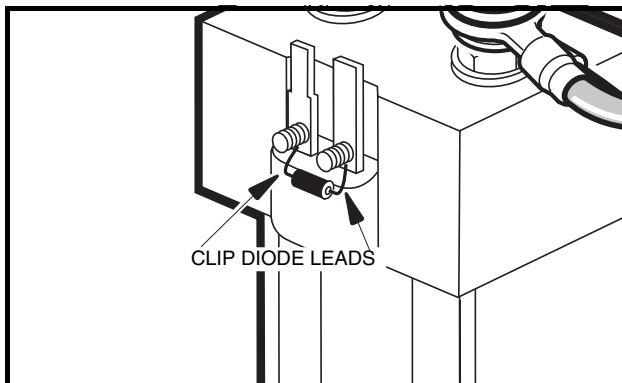
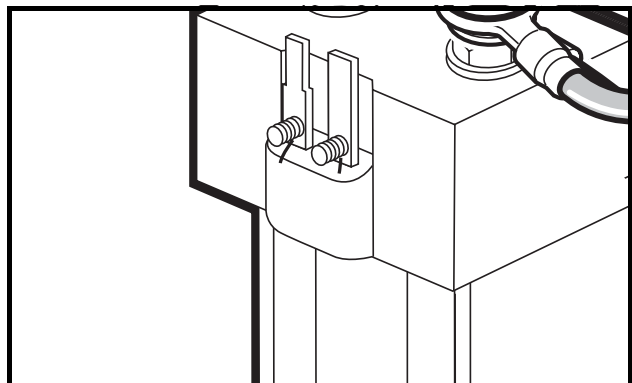

Figure 11-8 Diode Removal
Figure 11-9 Solenoid with Diode Removed
4. To remove the diode, carefully clip the two leads where they attach to the solenoid terminals (**Figure 11-8, Page 11-15 and Figure 11-9, Page 11-15**). See following **NOTE**.